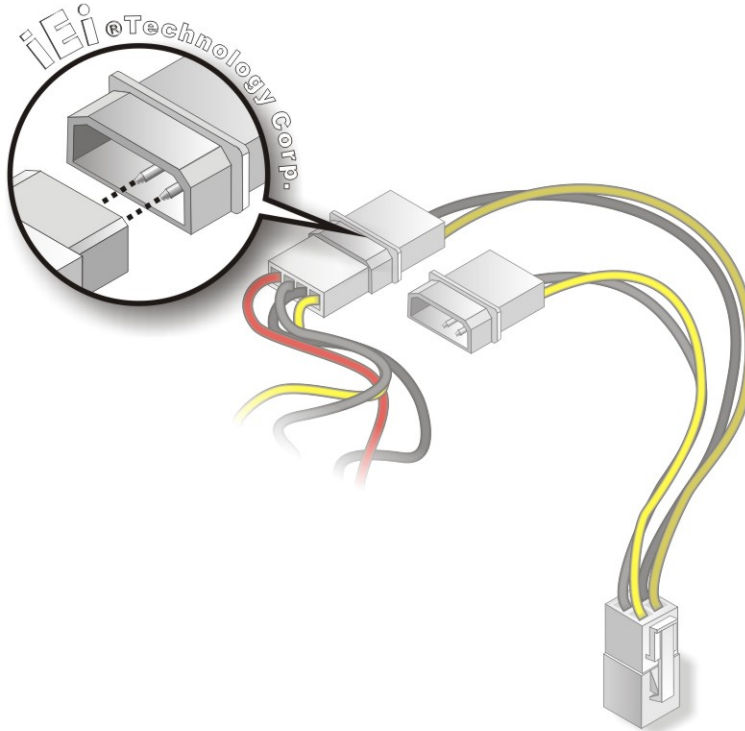

Figure 5-7: Connect Power Cable to Power Supply
Step 3: Connect Power Cable to Power Supply. Connect one of the 4-pin (1x4) Molex type power cable connectors to an AT power supply. See Figure 5-7.